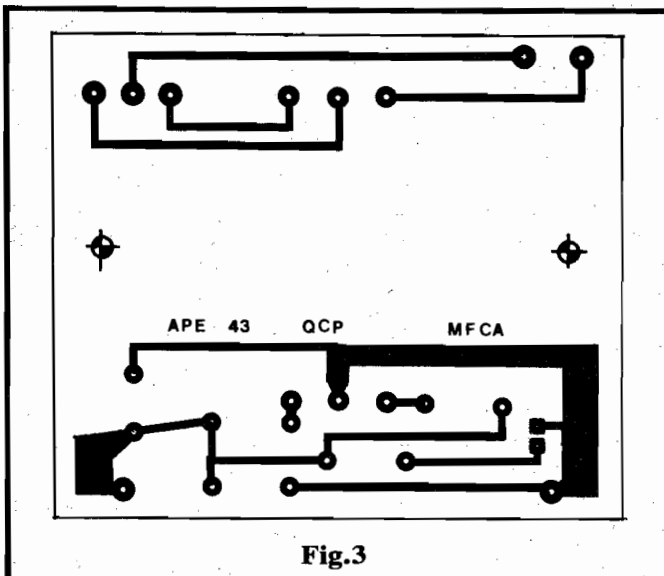

Fig.3
- FIG. 3 - LAY OUT DO IMPRESSO DO MÓDULO FONTE PARA C.A. (MFCA).